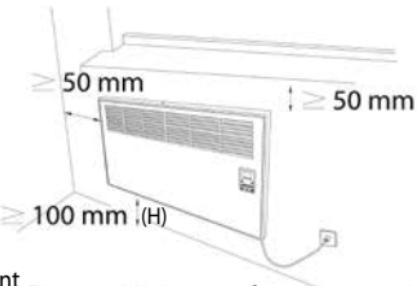
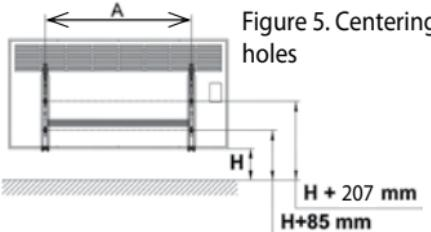
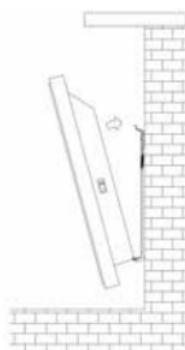

Figure 4. Minimum safety zones required for the efficiency of the appliance
Figure 5. Centering holes
Figure 7.
2. Correct space has to be measured in order that the connection cord can easily be connected to the electric socket. After determining the place the holes for montage must be drilled according to the method shown in Figure 7. To fix this appliance you can use the wall mounting bracket. (Figure 5) Mounting bracket can be used as a template for positioning and drilling points. You can place the bracket on the wall and measure the space between the floor and the lower part of the bracket as min 100 mm or max. 200 mm. Mark the screw-holes through the holes with an appropriate pen. You have to be careful to ensure the safety zones are kept free in order that the appliance can work efficiently. (Figure 4.)